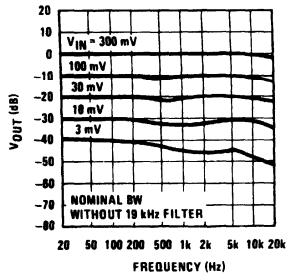

FIGURE 3. Output vs Frequency
*Figure 3* is an interesting curve and deserves some discussion. Although the output of the DNR system is a linear function of input signal, the  $-3 \text{ dB}$  bandwidth is not. This is due to the non-linear nature of the control path. The DNR system has a uniform frequency response, but looking at the  $-3 \text{ dB}$  bandwidth on a steady state basis with a single frequency input can be misleading. It must be remembered that a single input frequency can only give a single  $-3 \text{ dB}$  bandwidth and the roll-off from this point must be a smooth  $-6 \text{ dB/oct}$ .